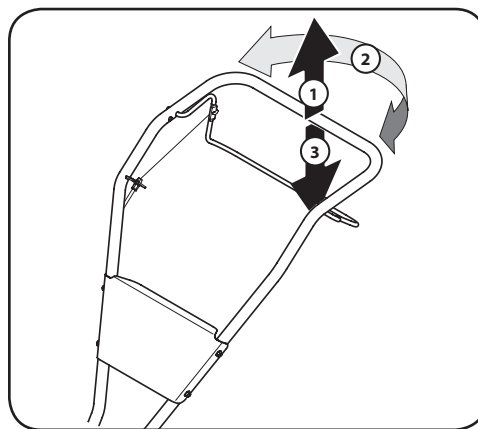

Figure 4-4
1. To begin a turn, lift the handlebars until the tines are out of the ground and the engine and tines are balanced over the wheels. See Figure 4-4.
2. With the tiller balanced, push sideways on the handlebar to steer in the direction of the turn. See Figure 4-4.
3. After turning, slowly lower the tines into the soil to resume tilling. See Figure 4-4.